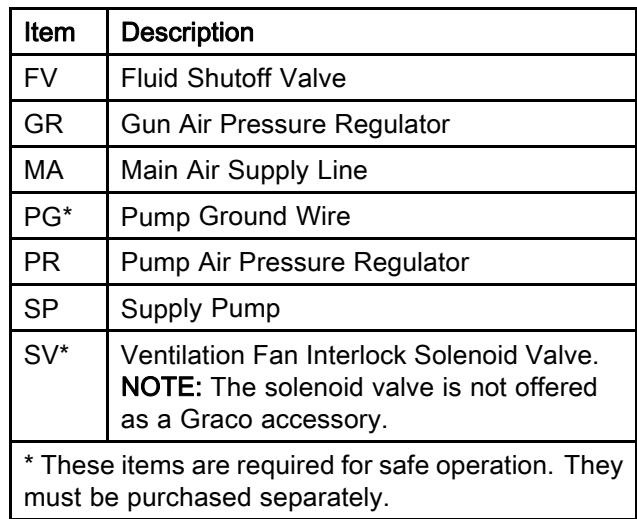

Figure 10 Typical Installation
Fig. 10 shows a typical electrostatic air spray system. It is not an actual system design. For assistance in designing a system to suit your particular needs, contact your Graco distributor.
1. See Fig. 10. Use the Graco Grounded Air Supply Hose (AH) to supply air to the gun. The gun air inlet fitting has a left-hand thread. The air supply hose ground wire (AG) must be connected to a true earth ground. Do not connect the air supply hose to the gun air inlet yet.
2. Install an air line filter/water separator (AF) on the gun air line to ensure a dry, clean air supply to the gun. Dirt and moisture can ruin the appearance of your finished workpiece and can cause the gun to malfunction.